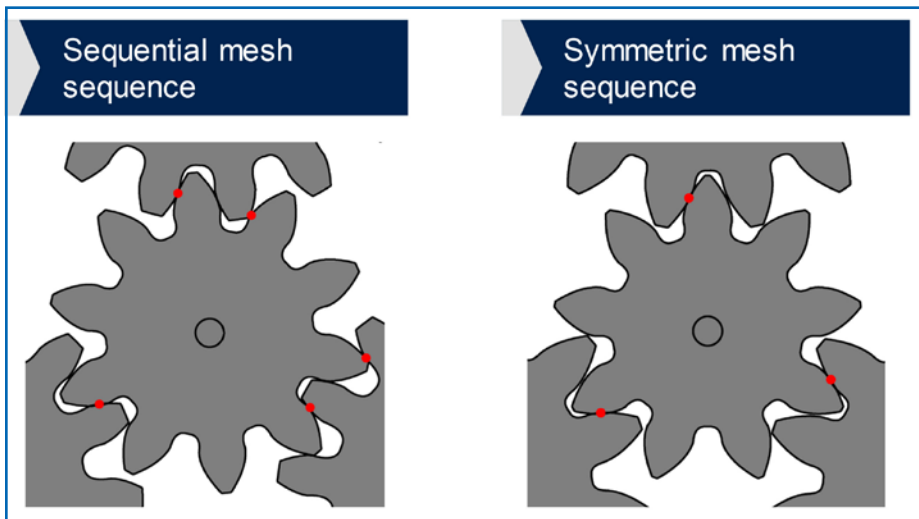

Figure 8 Mesh sequence in planetary gear stage.
- **Sequential mesh sequence:** number of teeth of the sun pinion is not divisible by number of planets. The meshes are at different points on path of contact at any time (Fig. 8).